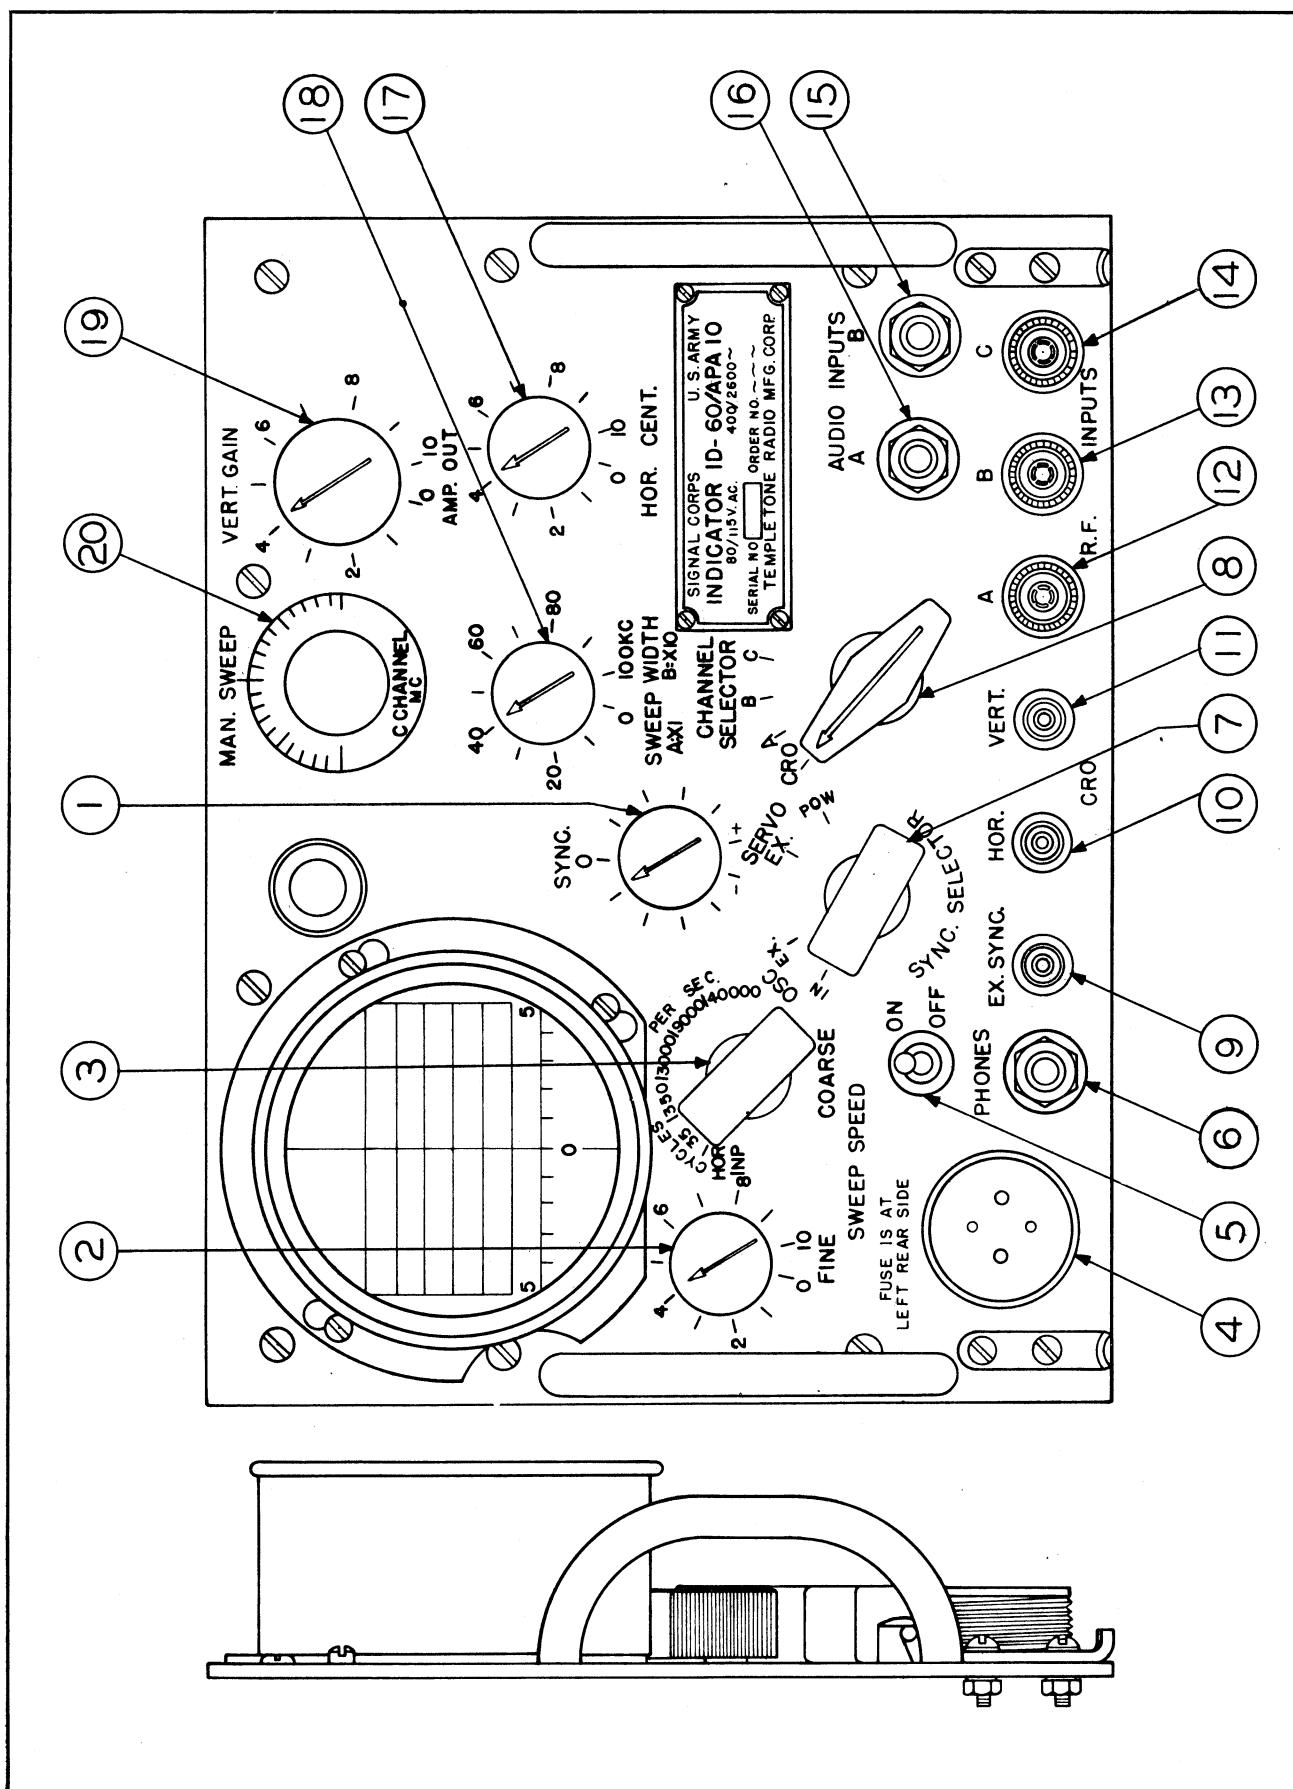

Figure 2-5. Panoramic Adapter AN/APA-10—Panel Controls
b. CHANNEL A.—(All controls reference numbers apply to figs. 2-5, 2-6, 2-7 and 1-2.)